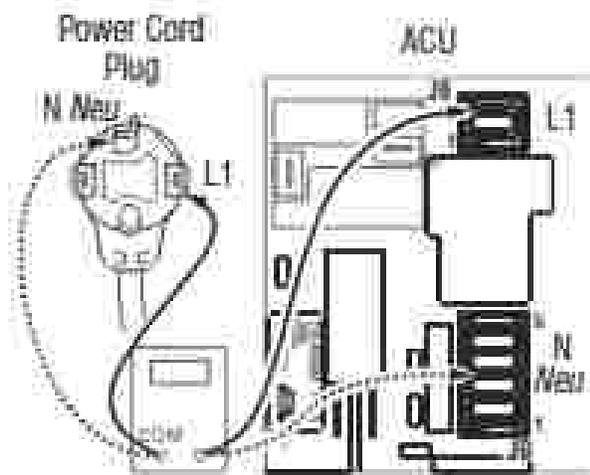

Figure 3 • Plug-to-terminal connections for electric dryer
4. With an ohmmeter, check the continuity from L1 and N plug terminals of the power cord to the terminals for L1 and N on the ACU. See figure 3, page 3-11.